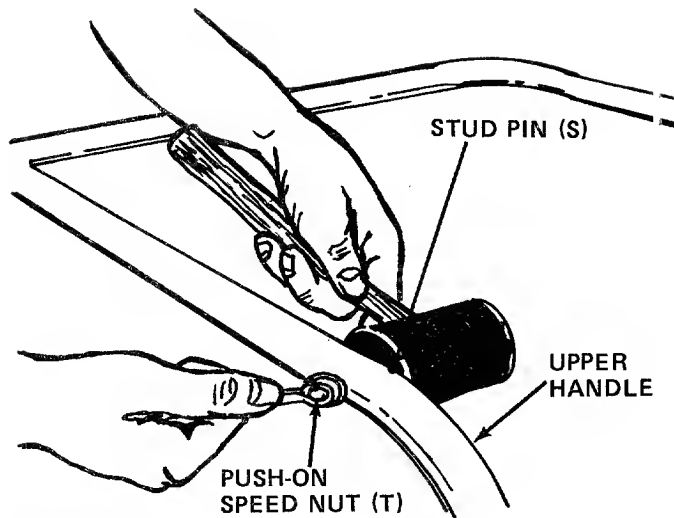

FIGURE 7
9. Place the stud pins (S) in holes in upper handle (head of pins go to the inside of handle). Secure pins with push-on speed nuts (T) by holding speed nut with box wrench and tapping pin with hammer. See figure 7.